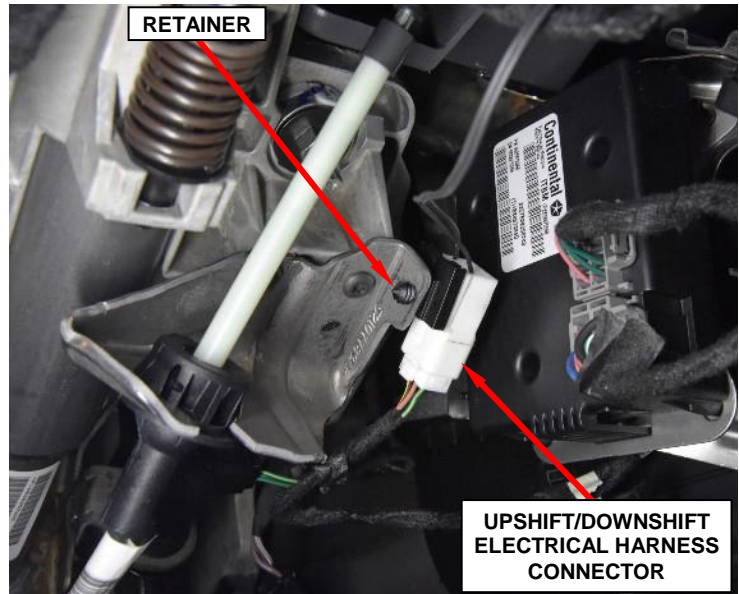

Figure 10 – Upshift/Downshift Electrical Harness
15. Disconnect the upshift/downshift electrical harness connector (Figure 10).
16. Release the upshift/downshift electrical harness connector retainer (Figure 10).
33. Install the upshift/downshift electrical harness connector retainer (Figure 10).
34. Connect the upshift/downshift electrical harness connector (Figure 10).